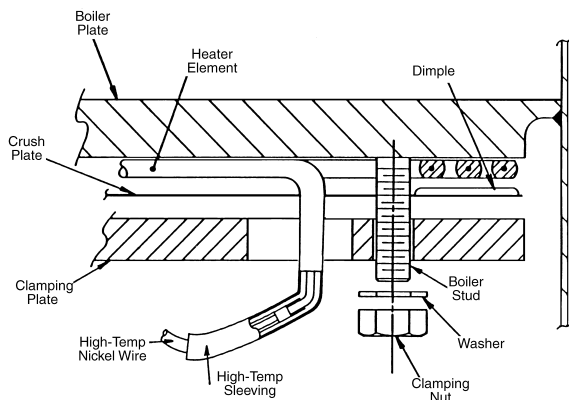

Figure 29 Heater Element Assembly
Figure 29 shows the components of the heater element assembly. The heater replacement procedure is the same for all large diffusion pumps*.
9. Replace the heater insulation (not shown in Figure 29) between the high temperature nickel wires and the clamping plate.